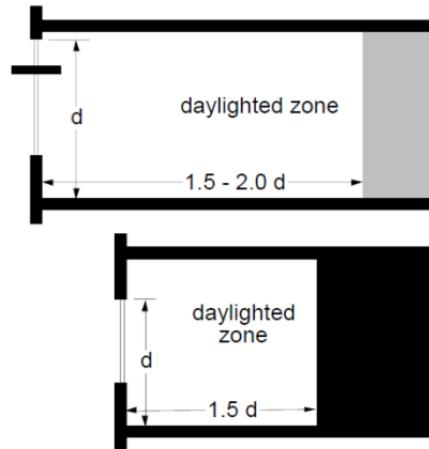

Figure 4: Typical daylight penetration rule-of-thumb
- **The higher the window, the deeper the daylighting zone.** The practical depth of a daylit zone is typically 1.5 to 2 times the window head height, as shown in Figure 4. With a reflective light shelf, this zone may be extended further. If a corridor is beyond this zone and separated with a partially glazed wall, it may be adequately lit with the spill light from the room. With standard window and ceiling heights (between 9 and 10 ft; 2.7 to 3 m), plan on adequate daylight within 20 feet (6.1 m) from the window.